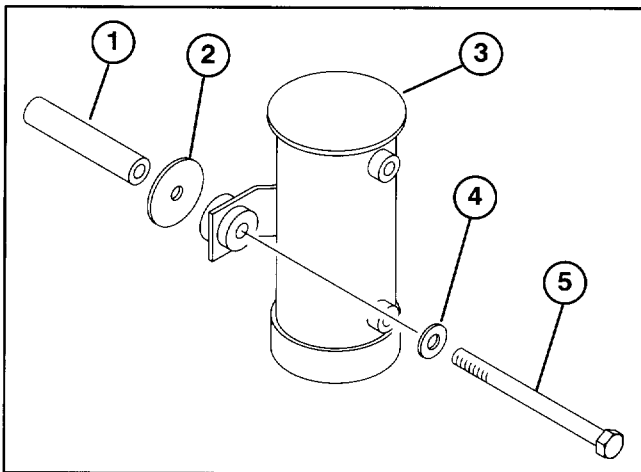

Figure 12
18. On gas models only, remount fuel pump to frame channel with (2) spacers, flat washers, previously removed washer and new 1/4-20 x 4" lg. capscrews, as shown in figure 12.